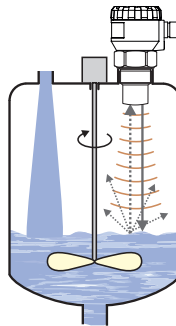

Fig. 9: Moderately stirred surface
- During filling, mixing and other processes, **foam** can arise on the level of the measured liquid. The foam considerably absorbs the radio signal which might cause malfunction of the level meter (Fig. 9). For such cases, it is necessary to set up "SENSITIVITY" mode to "high" or contact the manufacturer if need. In case of a thin layer of foam, it is also possible to use the directional horn for improving receipt of the reflecte echo.
- Scattering or attenuation of the radio signal can result if the level has been **moderately stirred** or **rippled** (by a mixer, coming liquid etc.). It can result in reduction of the measurement range or unreliable function of the level meter (Fig. 9).